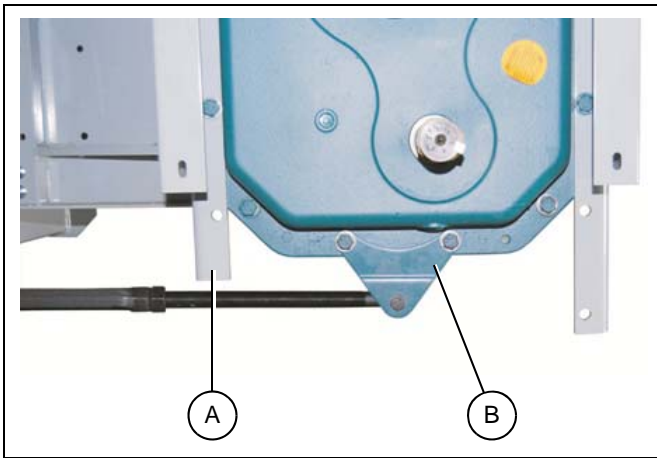
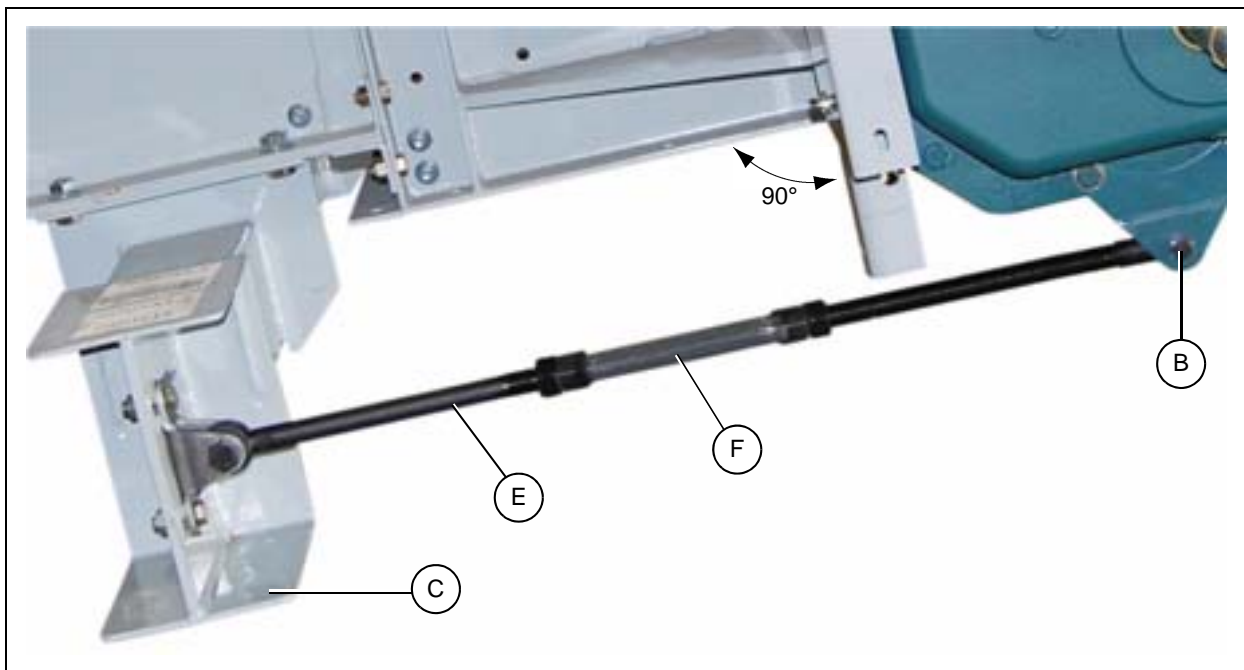
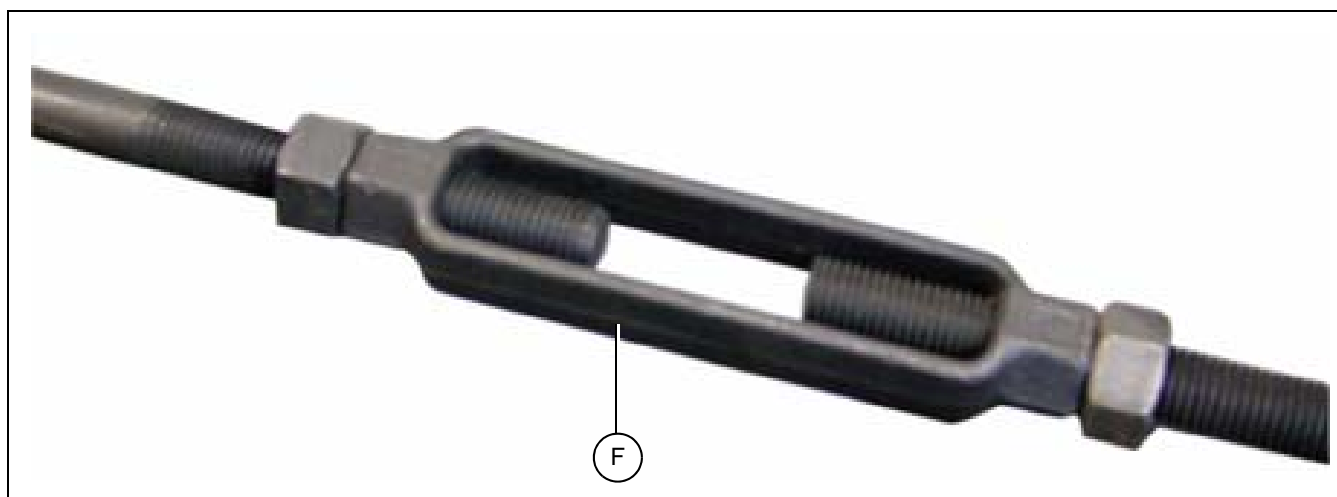

Figure 6T
Figure 6V
Figure 6W
\(See Figure 6V on Page 27.\)
The torque arm bracket (C) is mounted under the first intermediate section. Locate bracket by matching an existing set of holes in the intermediate side that allows the turnbuckle assembly (E) to be as short as possible with the reducer in a position perpendicular to the length of the conveyor. \(See Figure 6V on Page 27.\)
Install the torque arm turnbuckle (F) between the two (2) plates (B) that are located on the bottom of the reducer drive. \(See Figure 6V on Page 27.\) Secure using bolt with washer and lock nut. \(See Figure 6T on Page 27.\) Attach the other end to the torque arm bracket (C) on the conveyor using two (2) bolts, washers and lock nuts. Adjust the torque arm (D) by turning the turnbuckle. \(See Figure 6W on Page 28.\)